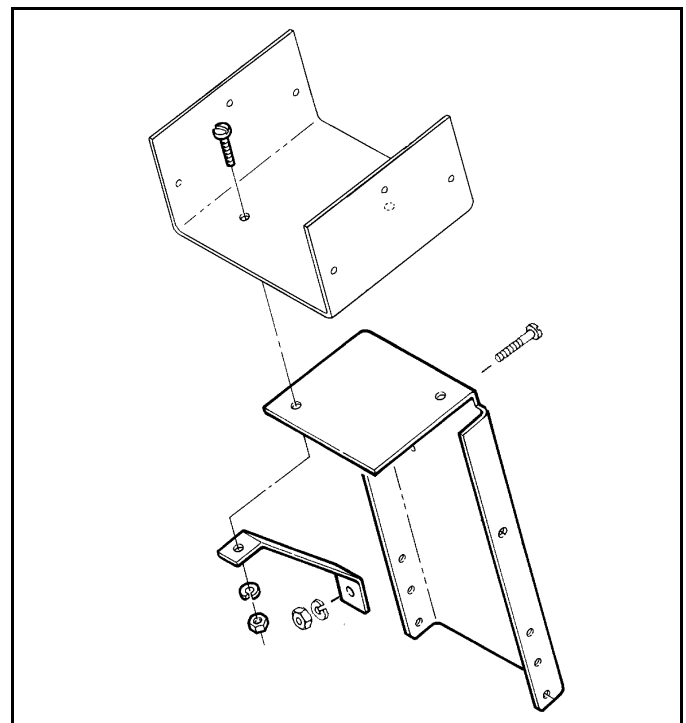

Figure 1-6
4. Position the Controller Housing Bottom Plate on top of the Stand Plate and fasten it with two #10-24 x 1/2" Round Head Machine Screws, Lock Washers and Nuts provided. (See Figure 1-6)